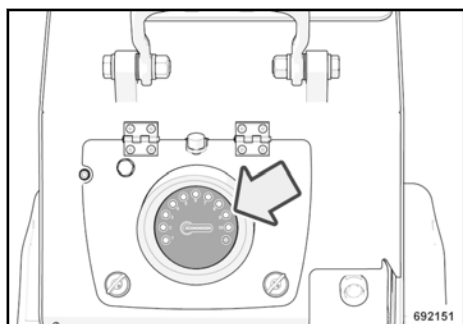

Fig. 13
- the evaluation and display module is integrated in the maintenance flap (within the operator's view → Fig. 13). It shows the measuring value measured by the compaction control.